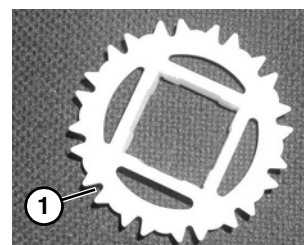

Figure 15
NOTE: The cogged drive teeth on the belt should engage the deep grooves of the sprocket (Figure 15, item 1).